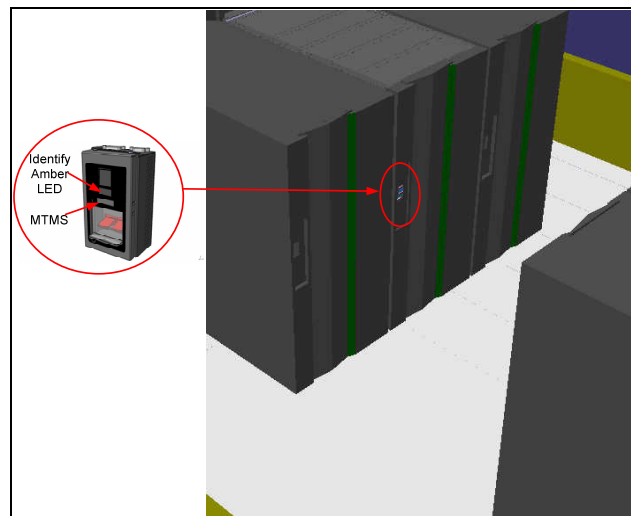

Figure 4 UEPO Panel Location on Front Door
6. The UEPO Panel Identify Amber “!” LED should be blinking. Verify the rack MTMS (Machine Type Model Serial number) are as expected. The rack level MTMS is located on the face of the UEPO Panel (see Figure 4 below). The Green circular lightning-bolt LED indicates that the UEPO loop is complete and it should remain lit throughout the procedure.